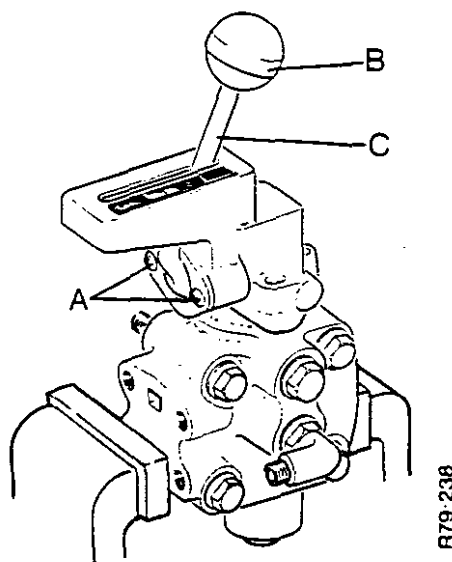

FIGURE 97. DISASSEMBLY OF THE THREE-WAY VALVE
1. Carefully hold the valve in a vice as shown in Figure 97. Move the lever into the '1' position. Remove the two screws 'A', holding the flange in position. Remove the knob and pull the lever clear of the valve body.